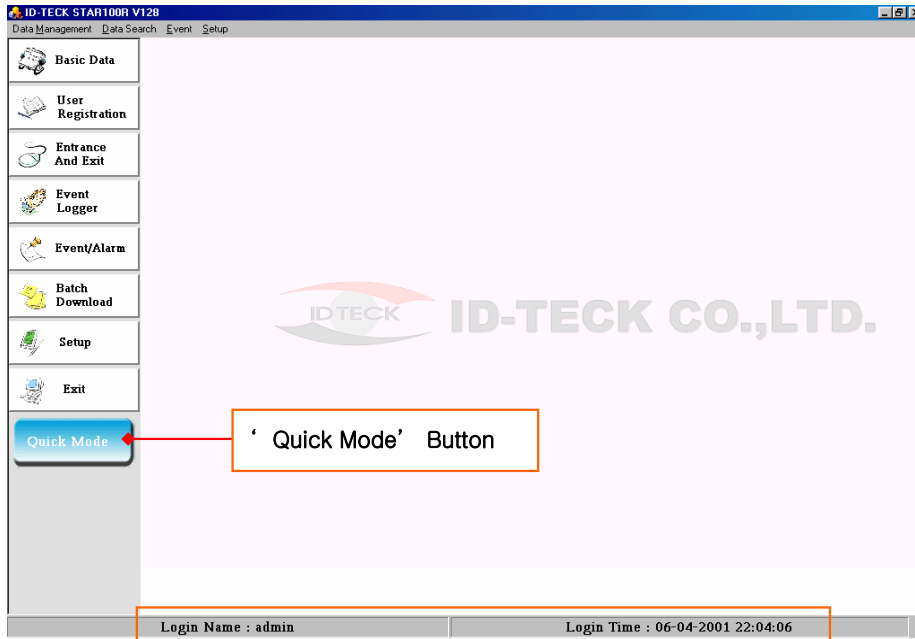

Figure 1.2
- Quick Mode button shown in Fig 1.2 appears when STAR100R is on PIN-Only Mode and Card-Only Mode. Red font indicates that Quick Mode is ON and white font indicates “OFF” status. Exiting while the Quick Mode is on and restarting the program will reset the setting to “OFF” status.
- The bottom of screen in Fig 1.2 shows user name and log-in time. This information will be stored in the program folder with a file name including 8-digit MMDDYYYY that reads like “HISTORY11272001.dat” This file will record if Quick Mode was turned on or off.